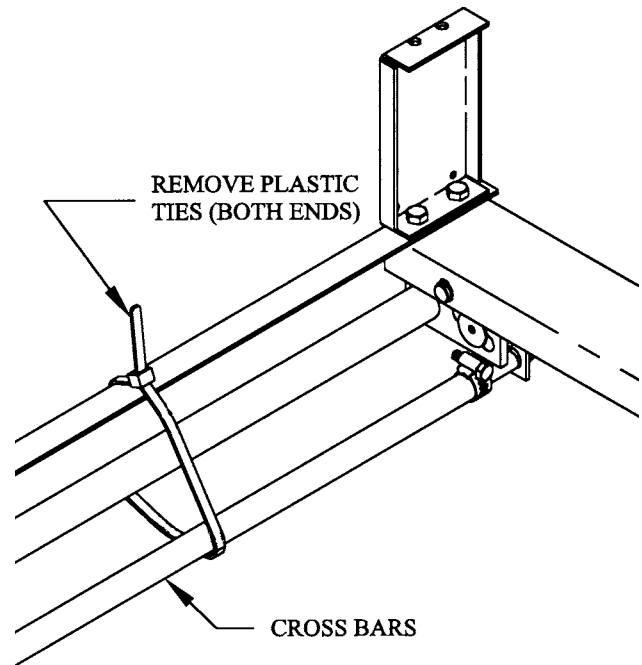

FIG. 3
STEP 3. Remove the plastic ties (2) used to secure cross bars during shipping. See Fig. 3.